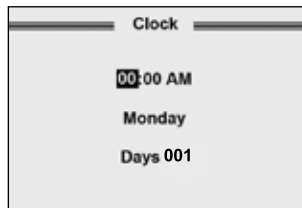

Figure 14.
- Use  or  button to select between hours and minutes and then press  or  button to change the time (Figure 14).